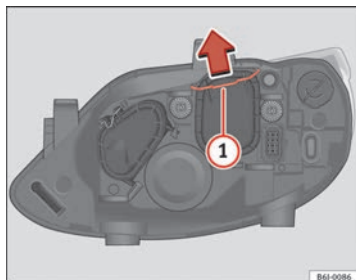

Fig. 152 Dipped beam headlights
- Move the loop ⇒ Fig. 152 ① in the direction of the arrow and remove the cover.